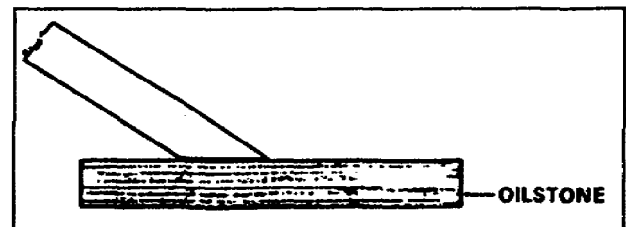

Figure 2-21. Whetting a chisel cutting edge
(2) Whetting the Cutting Edge. The cutting edge of the wood chisel can be kept in shape by whetting it on an oilstone (Figure 2-21), unless its edge is nicked or the bevel has become too rounded with careless whetting. In this case, the chisel must be ground, taking care the bevel is ground straight. Keep the length of the bevel about two times the thickness of the unbeveled part of the blade.